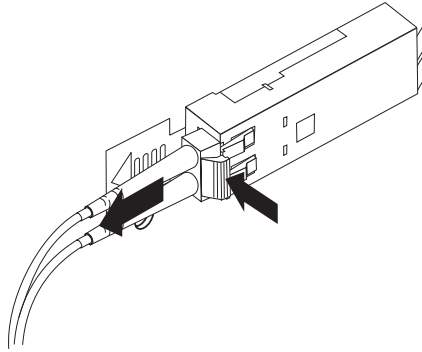

Figure 39. Removing the LC-LC fibre-channel cable
2. Carefully pull on the connector to remove the cable from the SFP module, as shown in Figure 39.